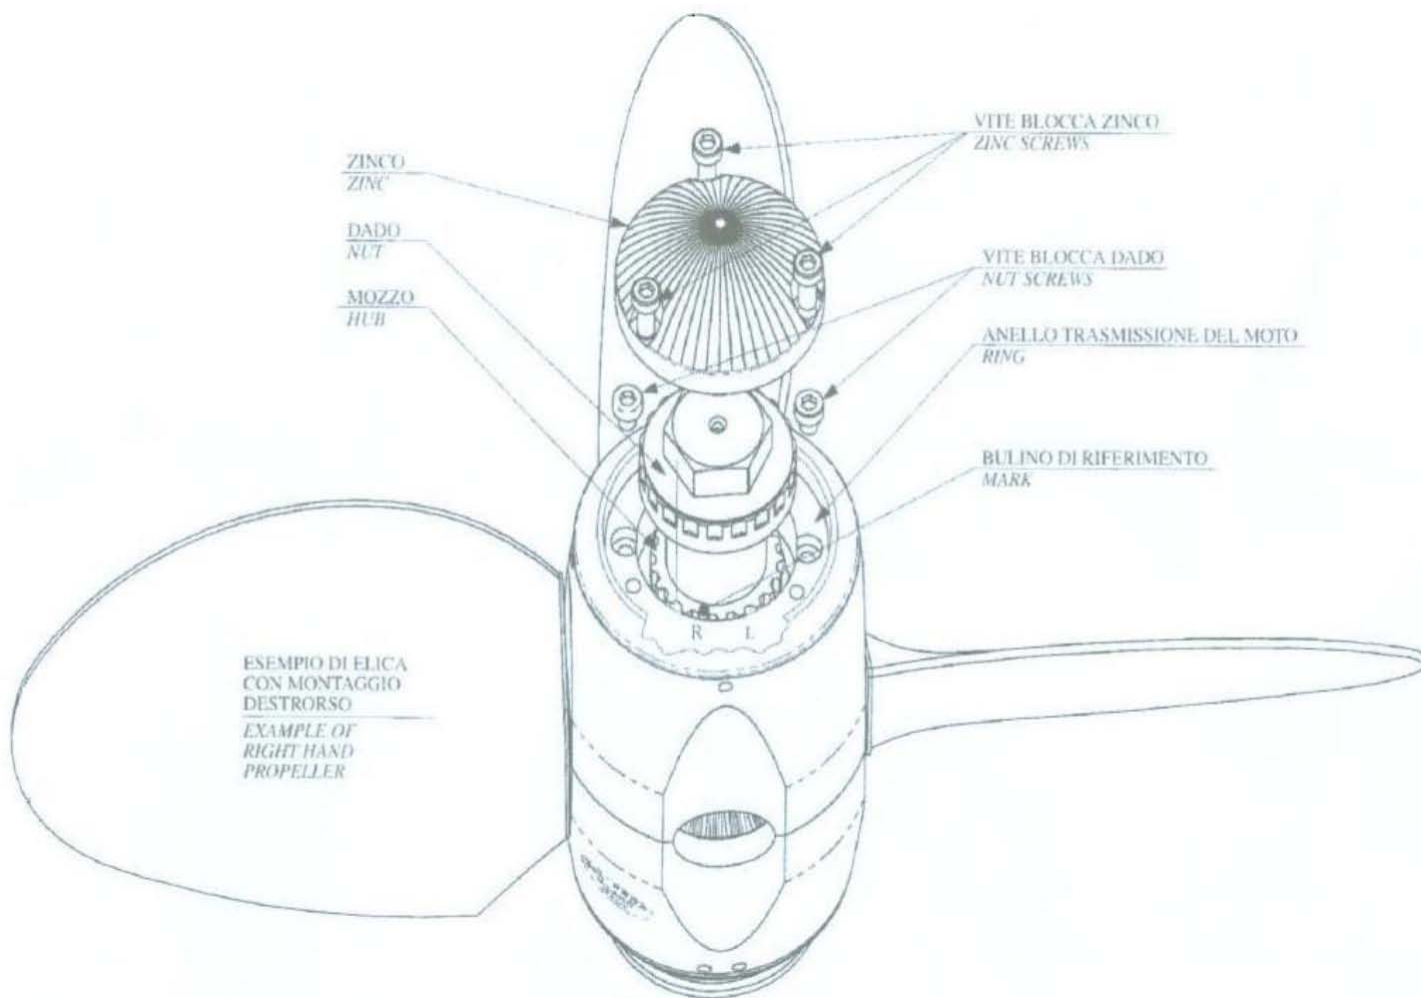

Fig.3
- Si hace coincidir el anillo porta-zinc con el diente “R” e n correspondencia con el diente del núcleo tendrá una hélice dextrógira. Si hace lo mismo con la “L” tendrá una hélice Levógira. (vea Fig.3).
In order to change rotation of the MAX PROP FAST GENERATION 2, from right hand rotation to left hand rotation or viceversa, do as follows referring to fig.3
- *If you place the zinc bearing ring in its seat again, matching the “L” tooth with the hub reference mark, you have a left hand rotating propeller, on the contrary, with the “R” tooth you have a right rotating propeller as in fig.3*